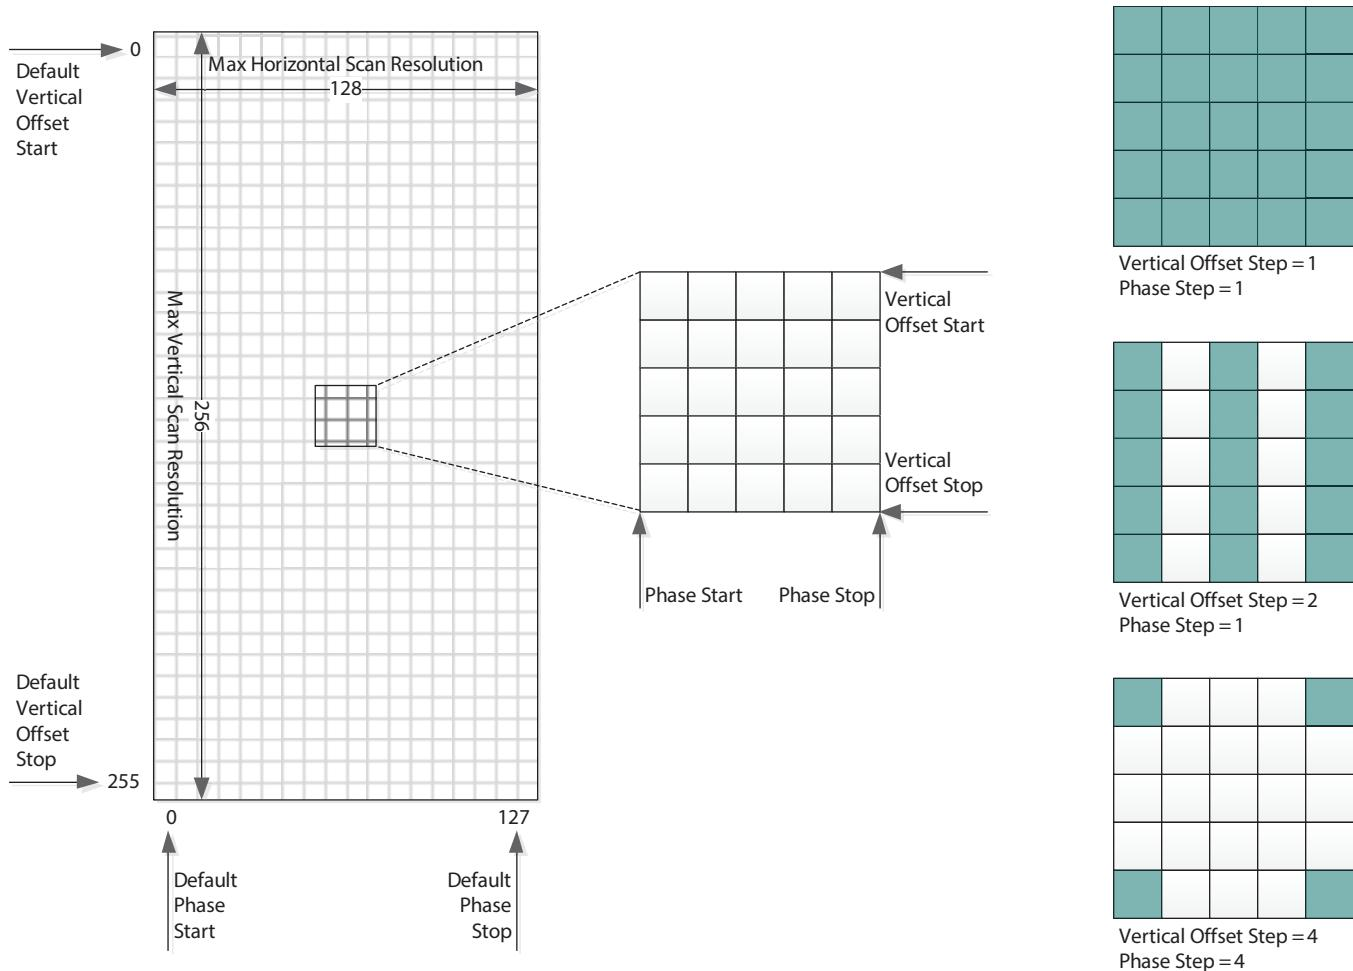

Figure 4-7: Eye Scan Matrix Parameters
Figure 4-7 shows a visual representation of the scan matrix and indicates the spatial parameters that determine the scan area and resolution. Running a scan using the default offset and step parameters, results in 32768 (128x256) samples. The number of samples and thus, the total scan time can be reduced to meet the needs of the application. The scan area can be reduced by reducing the span determined by the vertical and phase start and stop offsets. Or, the resolution can be reduced by increasing the step size between adjacent samples. On the right in Figure 4-7, there are three step settings used as examples, however there are a total of nine combinations possible. See Table 4-6 for the register addresses and parameter names of the spatial eye scan parameters.
Figure 4-7 illustrates an example of an eye scan, where the sampled eye data is not centred within the scan matrix. The eye scan data has an arbitrary centre phase relative to the centre of the matrix which is determined when the Eye Monitor is powered-up. While the Eye Monitor remains powered, subsequent scans will maintain the same relative phase allowing for consecutive scans to be compared for changes.
- Making reference to the Matrix shown in Figure 4-7, the eye scan data starting at 0x6C02 is stored in order from left to right, top to bottom, from the last stored vertical/horizontal position in the matrix